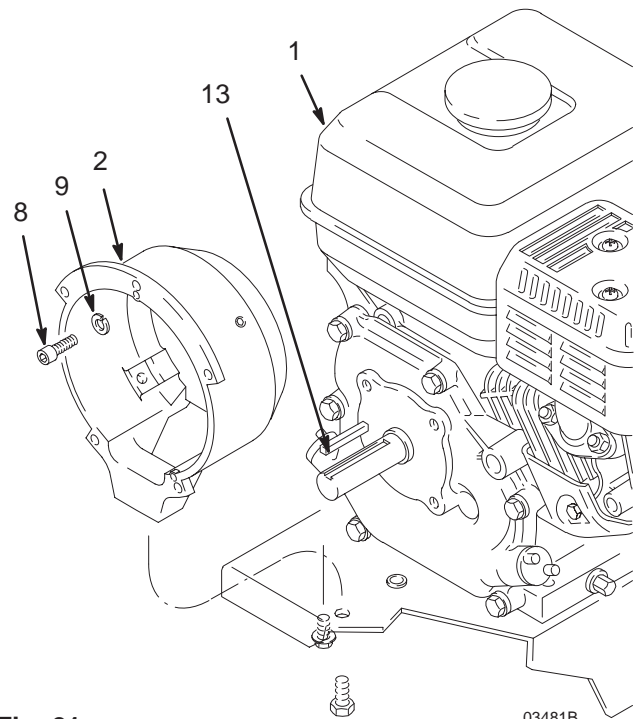

Fig. 21
**NOTE:** Refer to Fig. 21.
1. Remove the four capscrews (8) and lockwashers (9) which hold the clutch housing (2) to the engine (1).
2. Remove the engine key (13).
3. Pull off the clutch housing (2).